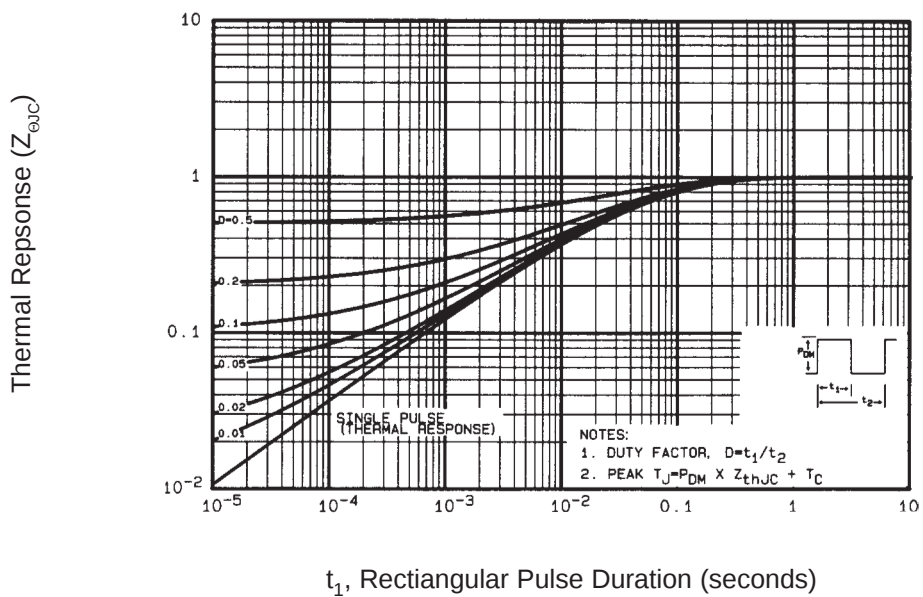

Fig. 11 Maximum Effective Transient Thermal Impedance, Junction-to-Case
① Repetitive rating; pulse width limited by max. junction temperature. (See fig. 11)
③ $I_{SD} \leq 52A, di/dt \leq 250A/\mu s, V_{DD} \leq V_{(BR)DSS}, T_J \leq 175^\circ\text{C}$
② $V_{DD} = 25V$, starting $T_J = 25^\circ\text{C}, L = 0.013mH$